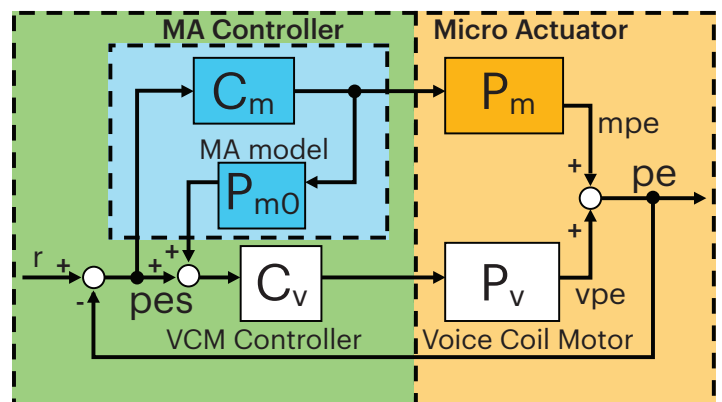

Figure 3. Schematic DSA servo block diagram with VCM and MA
Figure 3 shows the schematic dual-stage servo block diagram with Voice Coil Motor (VCM) and Micro Actuator (MA). The block diagram consists of VCM, MA, VCM controller and MA controller. "Pv" and "Pm" are the plant of VCM and MA, respectively. The MA controller consists of compensator "Cm" and MA model "Pm0". The signal "pes" represents the position-error signal, and "r" represents track runout. The "vpe" and "mpe" are respectively the position of VCM and MA. Then the overall position "pe" is the sum of "vpe" and "mpe."